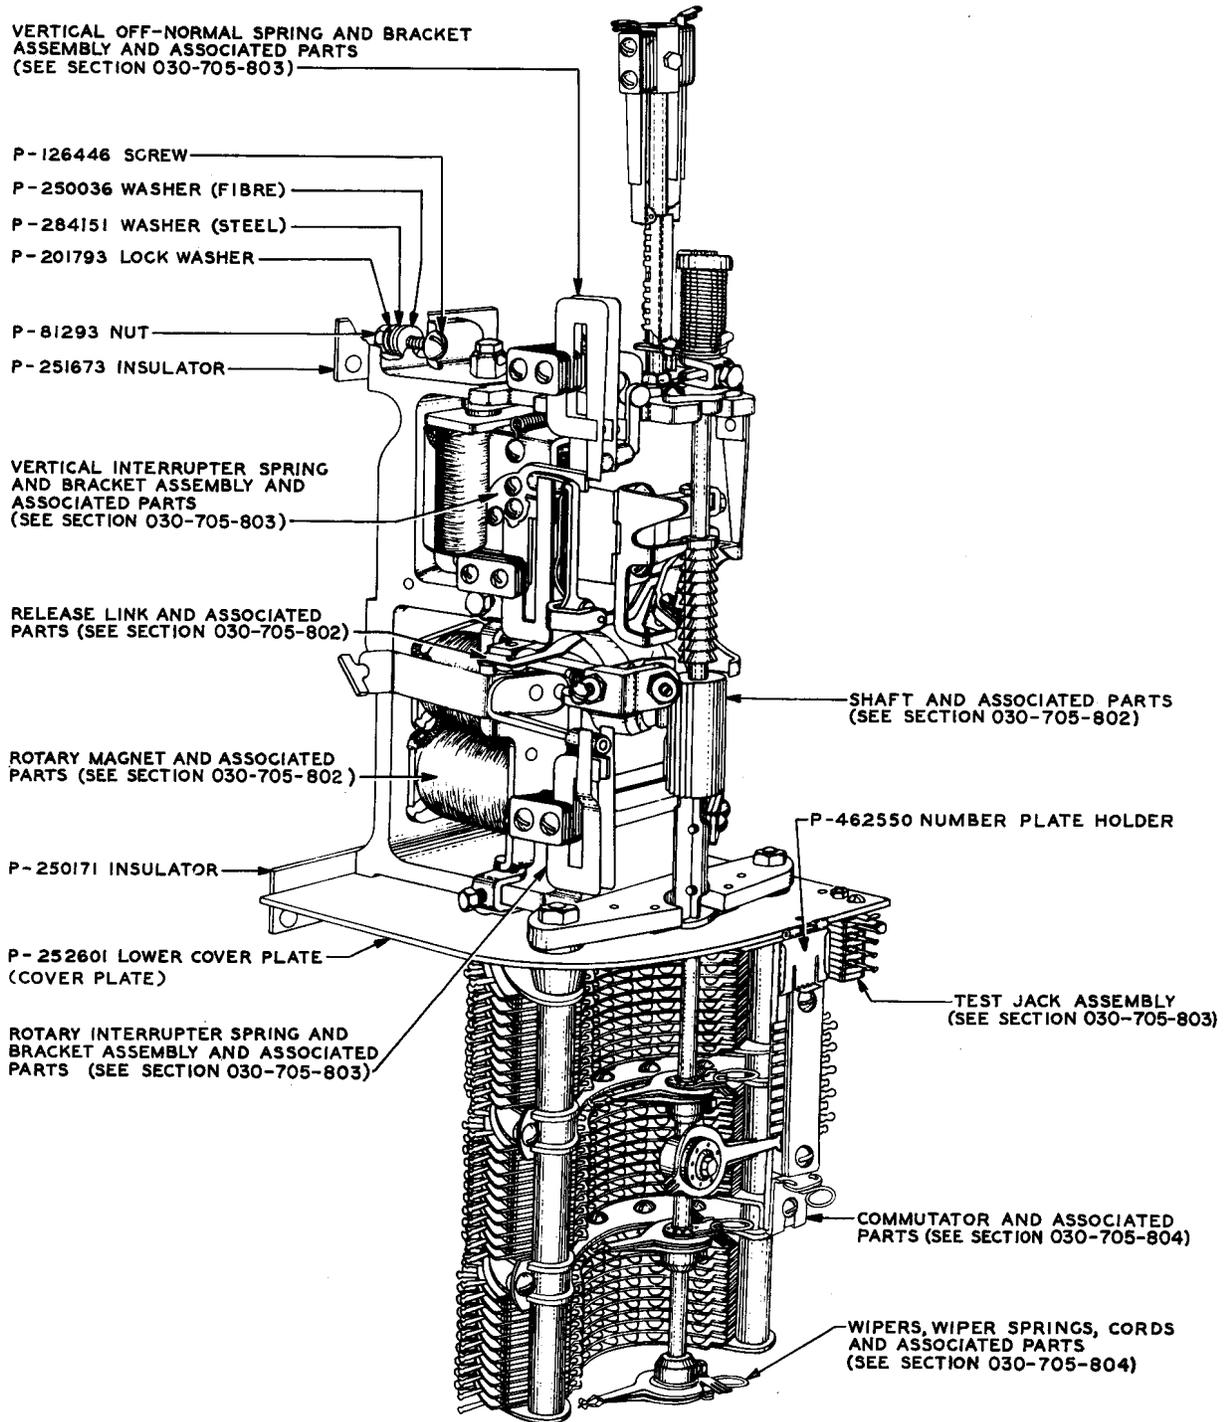

FIG 1 - PARTS OF 197 TYPE SWITCH AS VIEWED FROM THE LEFT SIDE
3. To add figures referring to other sections for detailed information (Figs. 1 and 2).
4. To revise the piece part information for the mounting washer and lock nut (Fig. 1). (Information for WECO covered by CO-165608.)
5. To add piece part information for the insulators between the switch mounting plate and the switch frame (Fig. 1). (Information for WECO covered by CO-165735.)
6. To add piece part information for the cover plate (Fig. 1).
7. To revise the piece part number of the number plate holder (Fig. 1). (Information for WECO covered by CO-139496.)
9. To revise the figures to bring them up to date (Figs. 1 and 2).